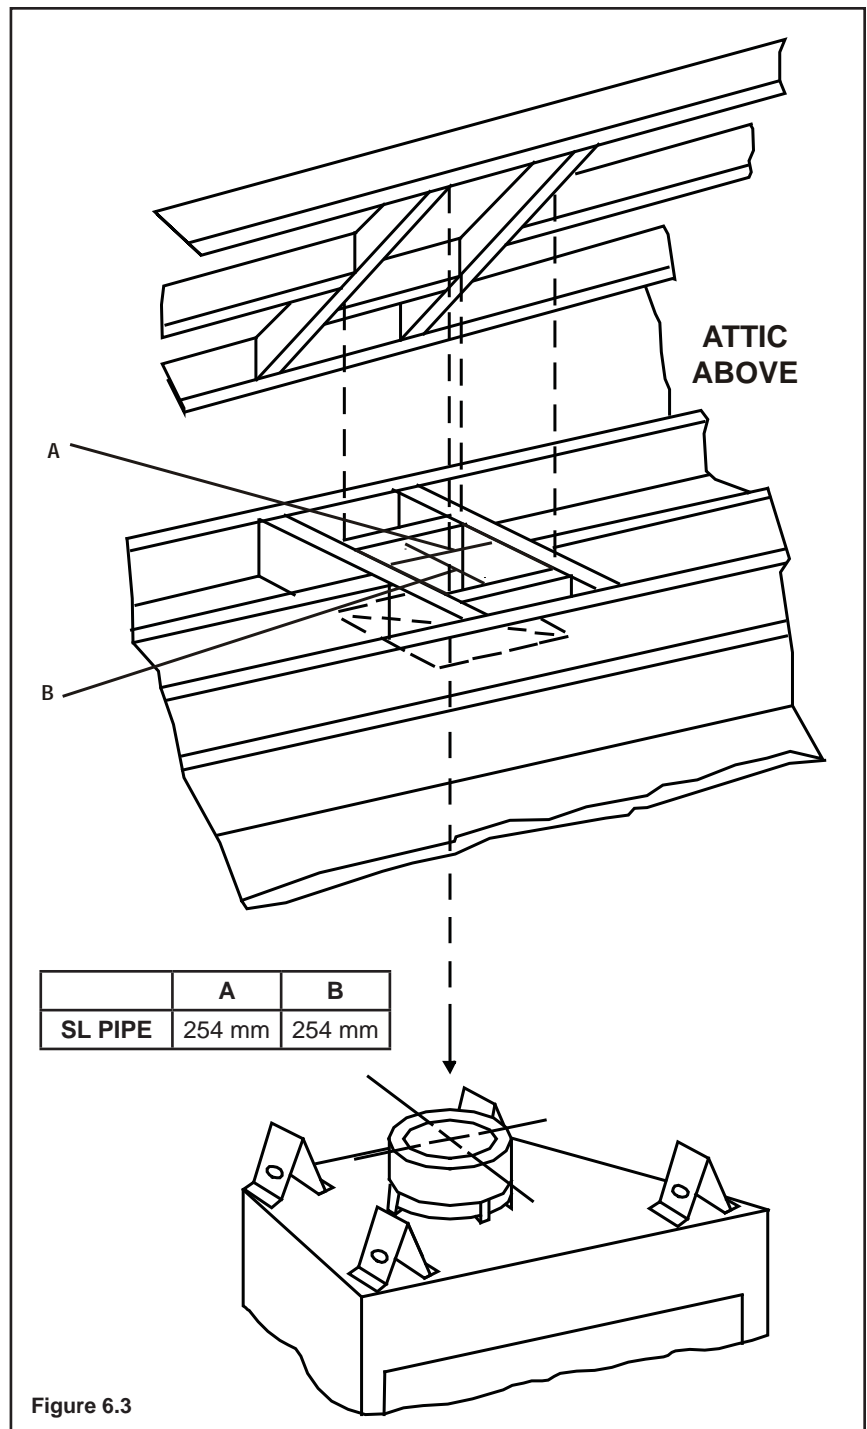

Figure 6.3
- Frame an opening 254 mm by 254 mm whenever the system penetrates a ceiling/floor (see Figure 6.3). A steeply slanted roof may require an enlarged opening size in order to maintain proper flue pipe clearances.